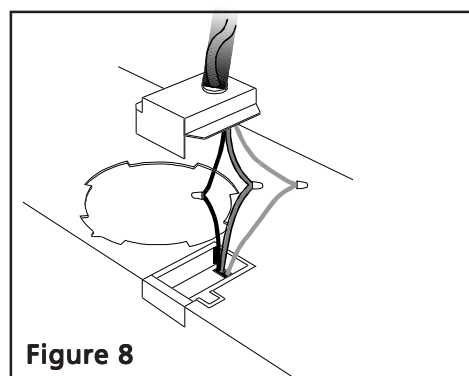

Figure 8
- Remove j-box cover as shown in Figure 8.
- Connect black wire from service panel to black or red in junction box, white to white and green to green-yellow. See Figure 8.